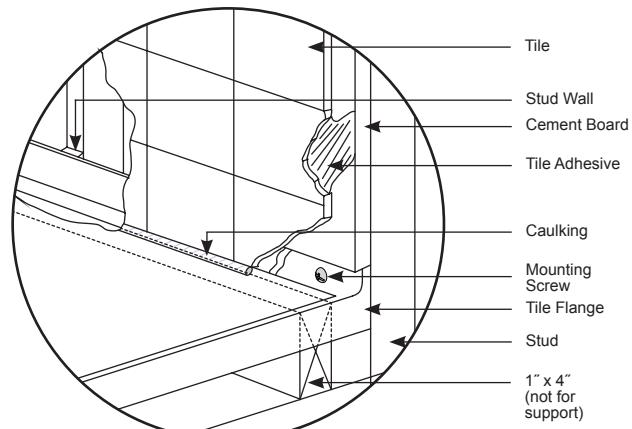

Figure 13 - Finishing
- 12** Complete all finish work around the perimeter of bathtub to seal the space between the rim and the finished deck (Figure 13).